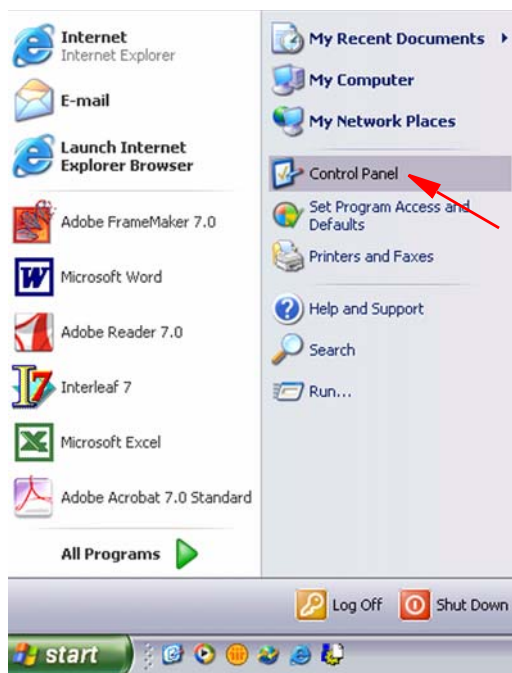
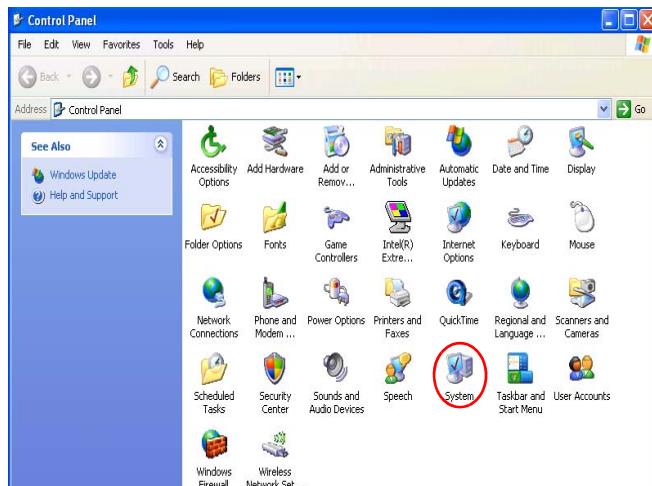

FIG. 3
FIG. 4
1. From the “Start” menu, open “Control Panel” and double click “System”. See FIG. 3 and FIG. 4.